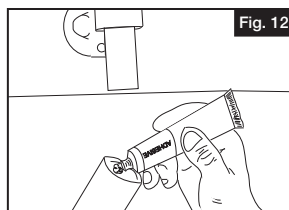

Fig. 12
2. Apply aluminum adhesive and slide the internal joiner half way into the vinyl lineal (Fig. 12).
- 2.** Once cuts have been completed and loop is ready to install, attach to Hand Rail system using a straight or adjustable joiner following the instructions outlined in this guide (Fig. 12, 13, 14, 15).